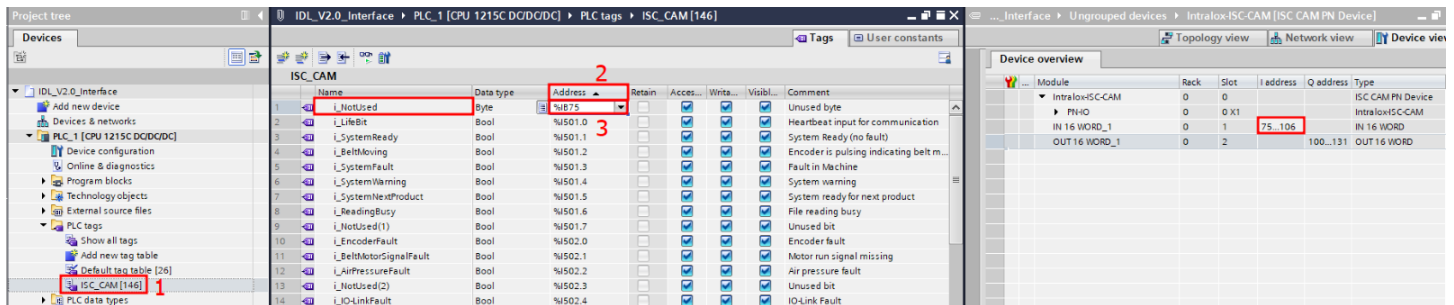

Figure 19: Changing First Input Byte of the ISC CAM PLC Tags
51. Open PLC tags "ISC_CAM," Figure 19.
52. Select "Address" column to organize the data in order, Figure 19.
53. Select the first input byte "i_NotUsed" data address %IB500 and change it to match the first byte of the available "I address" of the ISC CAM "Device overview," Figure 19.